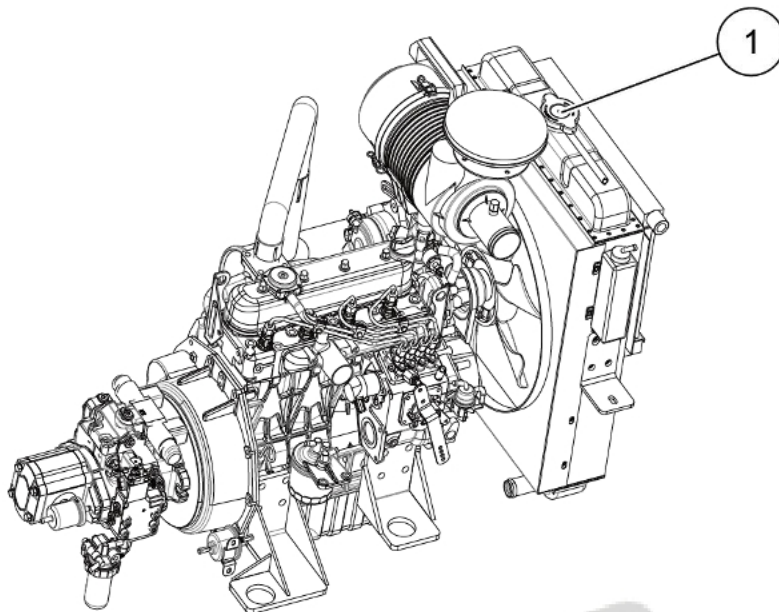

Figure 5-37 Add coolant
Step 2: Carefully clean the pressure cap (1) at the top of the radiator, and slowly unscrew the pressure cover (1). as shown in Figure 5-37;